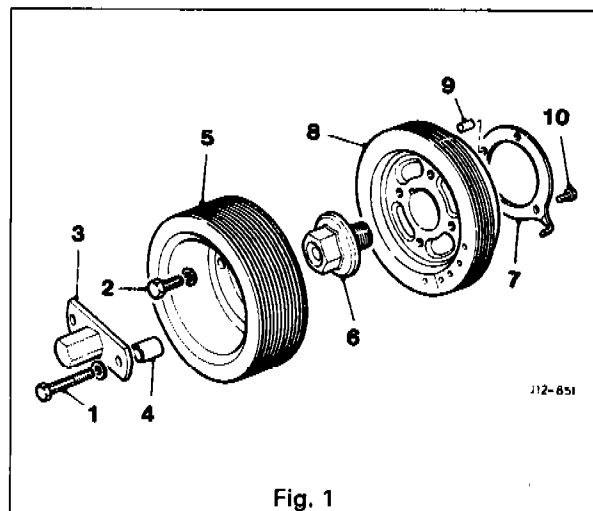

Fig. 1
- Fit the timing disc (7 Fig. 1) to the replacement damper (8 Fig. 1) with the roll pin (9 Fig. 1) and secure with the screws (10 Fig. 1).
- Fit the damper assembly to the crankshaft nose, and secure with the damper bolt (6 Fig. 1).
- Fit the pulley (5 Fig. 1) and the crank turning plate (3 Fig. 1) and secure with the securing bolts and spacers (1, 2, 4 Fig. 1).
- Remove the crank damper woodruff key (Fig. 1).
- Discard the seal and withdraw the crankshaft spacer (Fig. 1).